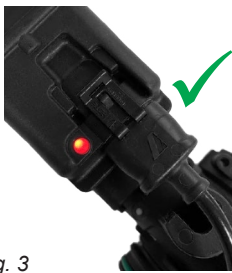

Fig. 3
**CAUTION: CHECK THAT THE CONNECTOR IS FITTED CORRECTLY TO ENSURE A PROPER SEALING (Fig. 3). If the seal is not positioned correctly, there may be infiltrations of water in the connector and in the valve, with the consequent risk of damage to the device (Fig. 4).**